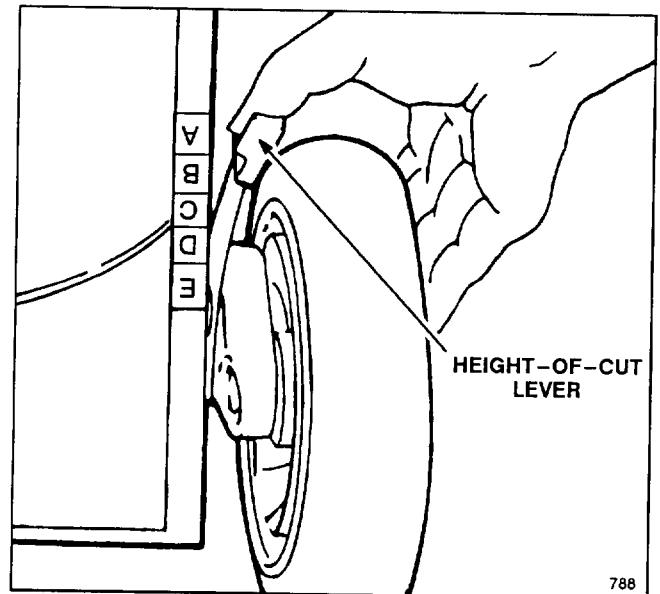

Figure 14
3. Squeeze the mower's height-of-cut lever toward the wheel and move it to the corresponding color/letter on the mower housing (Fig. 14). For easier adjustment, lift housing up so wheel is off ground. **Do not put fingers under housing when lifting.** Ensure pin on height-of-cut lever engages slot in housing. Adjust all wheels to the same color/letter setting.